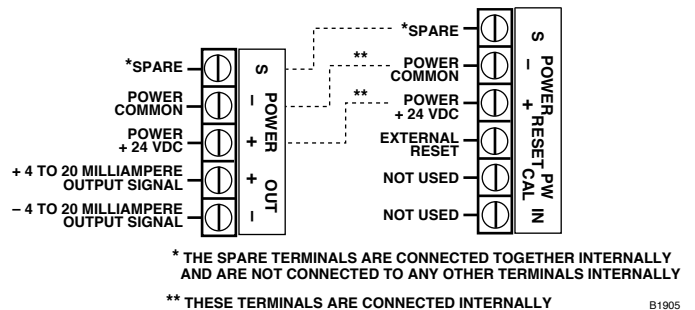

Figure 4—Field Wiring Terminals, Transmitter without Relays
- See Figures 4 and 5 for field wiring terminal designation.